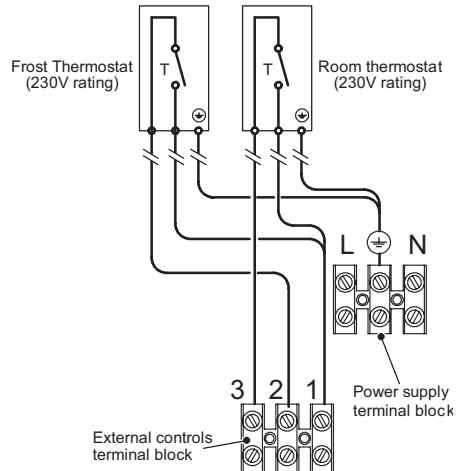
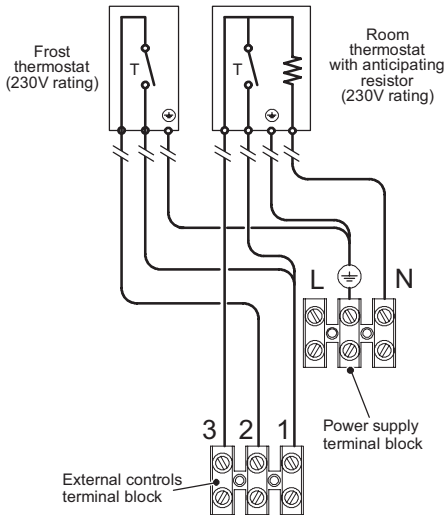

Fig. 6.20
Fig. 6.21
- Connect the frost thermostat between terminals 1 and 2 as shown in Fig. 6.20 or Fig. 6.21. **Do not connect live wires to terminals to which the room thermostat must be connected.**